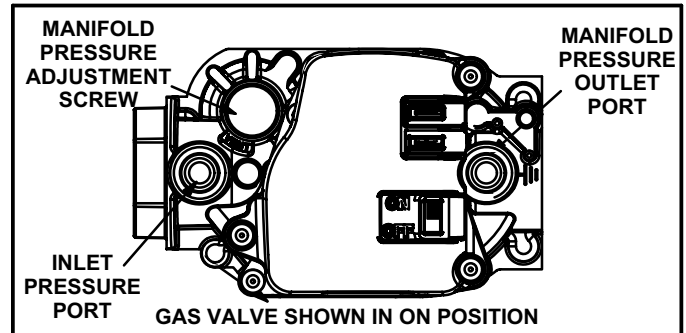

FIGURE 22
#### Gas Valve Operation (Figure 22)
- 6 - Move switch on gas valve to **OFF**. Do not force. See figure 22.
- 8 - Move switch on gas valve to **ON**. Do not force. See figure 22.